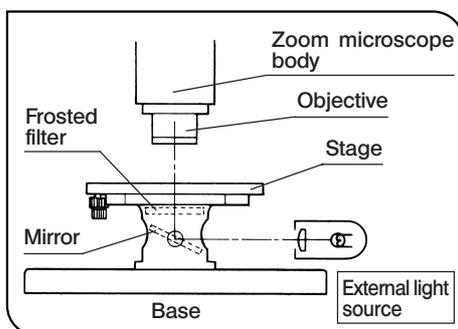

Fig. 25
(Fig. 25)
1. Illuminate the specimen with an external light source (illuminator, light guide illuminator, etc.). Light the external light source as shown in Fig. 25 and irradiate the mirror assembly.